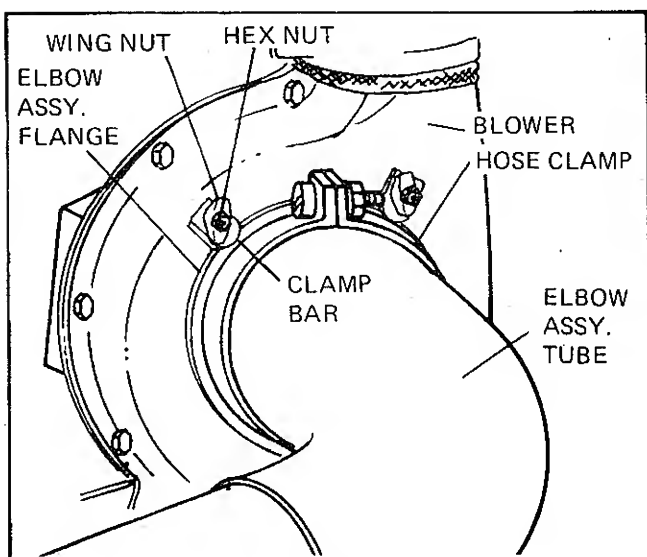

FIGURE 6
10. Install elbow assembly flange on blower and secure flange to elbow tube with hose clamp, machine screw, lockwasher, and nut (Figure 6). Be sure to tighten hose clamp securely.